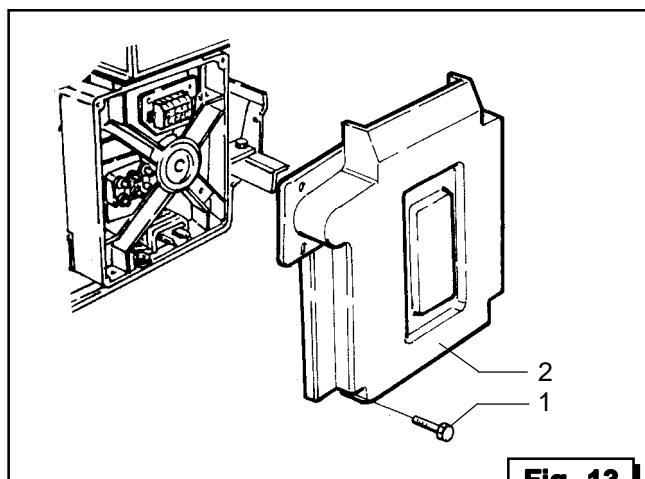

Fig. 13
- Togliere le viti (Fig. 13/13a, Rif. 1)
- Rimuovere il coperchio (Fig. 13/13a, Rif. 2)
- Remove the screw (Fig. 13/13a, Ref. 1)
- Remove the cover (Fig. 13/13a, Ref. 2)